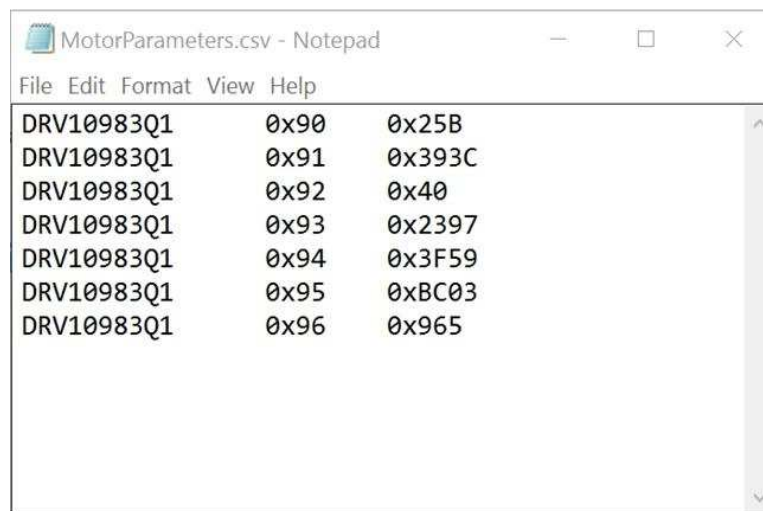

图 9. Example Motor Configuration File in .csv Format
3. Open the .csv file with Notepad. These registers are now implemented in the reference design CCS as shown in 图 9.